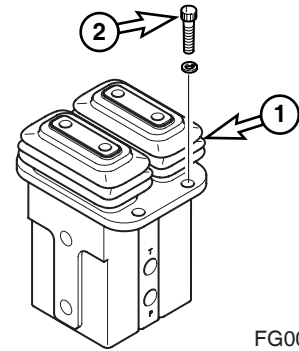

Figure 47
1. Position pedal valve (1, Figure 47) on cabin floor plate and install four bolts and washers (2).